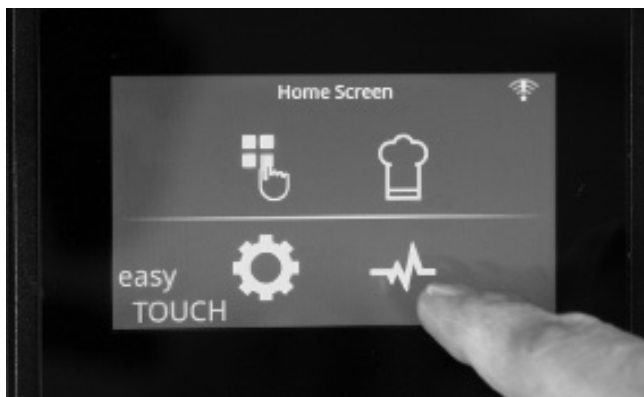

Figure 16
1. Press the Diagnostics button on the Home screen to access this mode. (Figure 16)